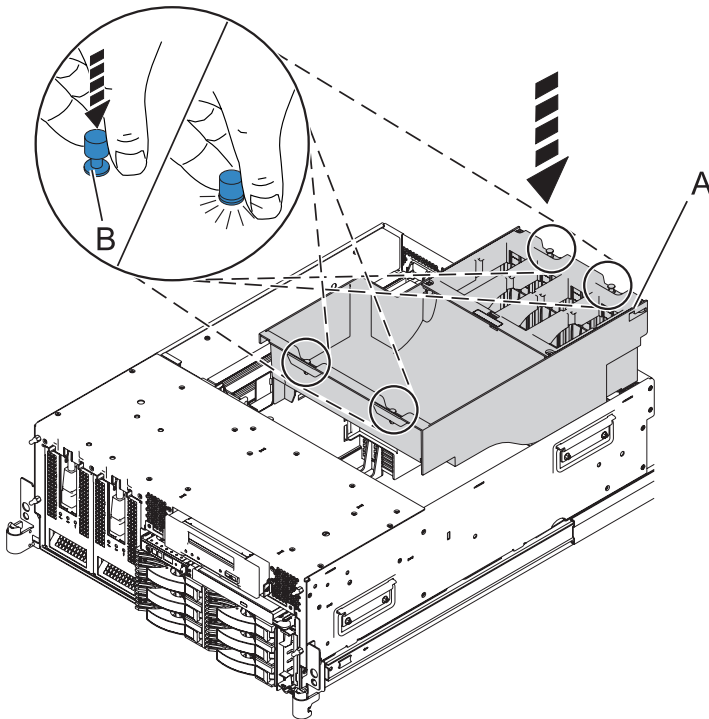

Figure 18. Replacing the air baffle
15. Replace the air baffle by inserting the baffle and securing the four locking tabs as shown in Figure 18.